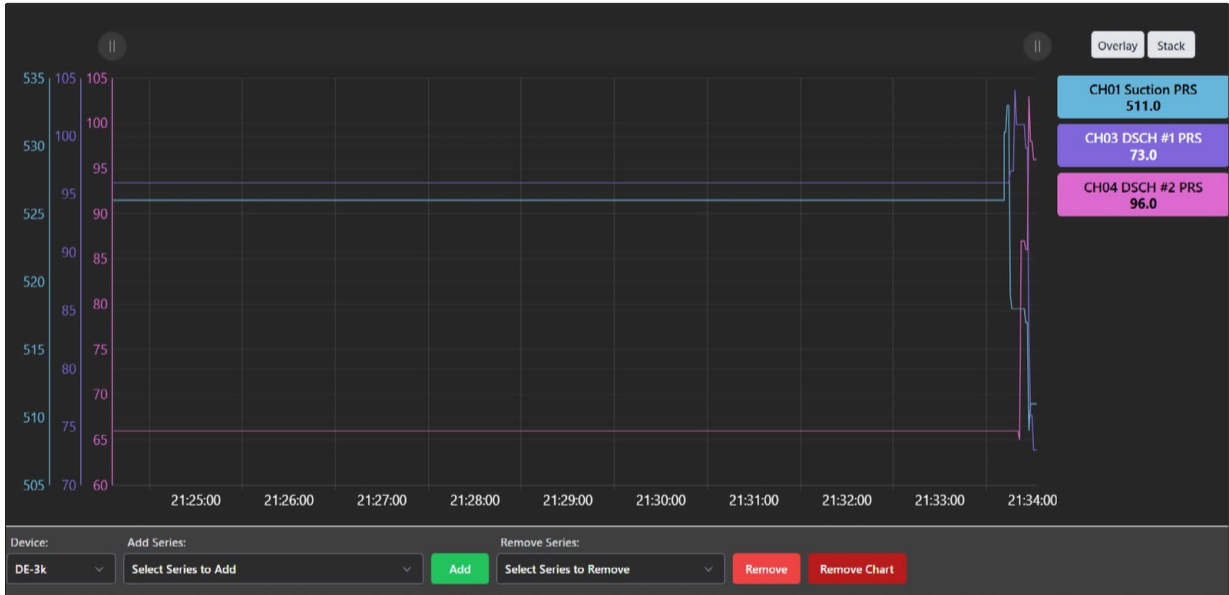

Figure 54
4. Color-matched buttons appear to the right of each channel. The button label automatically populates with the custom name assigned to the channel in the AWI dashboard, for example, CH01 Suction PRS. See Figure 54. Click the buttons to highlight a channel so that it stands out from the others, as needed.